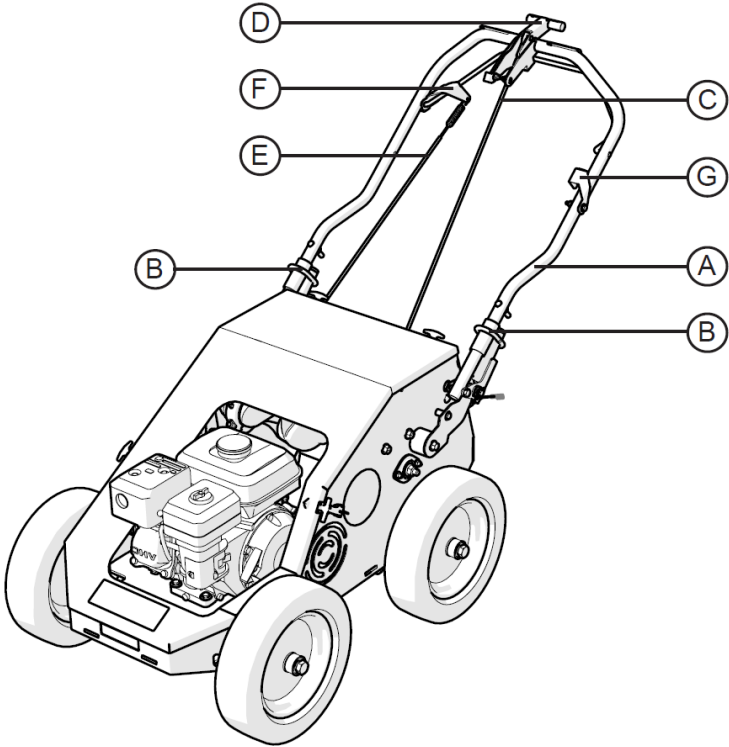

Fig.7
1. **UNFOLD** the upper handle (A, Fig.7) and slide handle lock loops (B, Figure X) into place to secure the upper handle to the lower.
2. **ATTACH** the tine lift cable (C, Fig.7) to the tine lever (D, Fig.7) in the center of the handle by inserting the pin into it. Then attach the bail cable (E, Fig.7) to the bail (F, Fig.7). Check to make sure the cables are functioning properly before operation and not binding.
4. **CONNECT** spark plug wire. Set the engine stop switch (G, Fig.7) to the ON position.